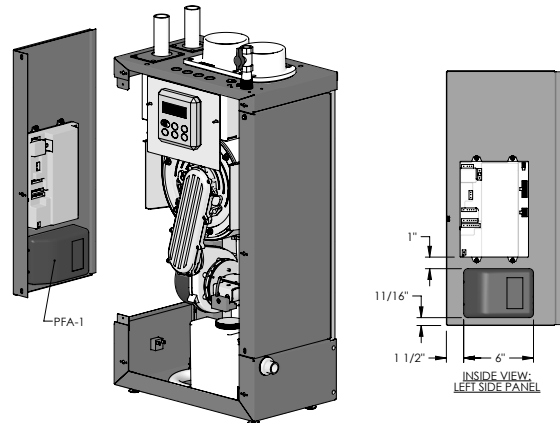

Figure 1
- Operating Status:** The boiler status can be monitored to determine if the boiler is in Standby, Prepurge, Ignition, Firing, Postpurge or Alarm conditions. It can also indicate if it is satisfying a central heating (CH) or domestic hot water (DHW) demand.
- Figure 1 shows the suggested mounting location for the PFA-1 Interface Adapter on the PF-50, PF-80, PF-110 and PF-140 boilers.